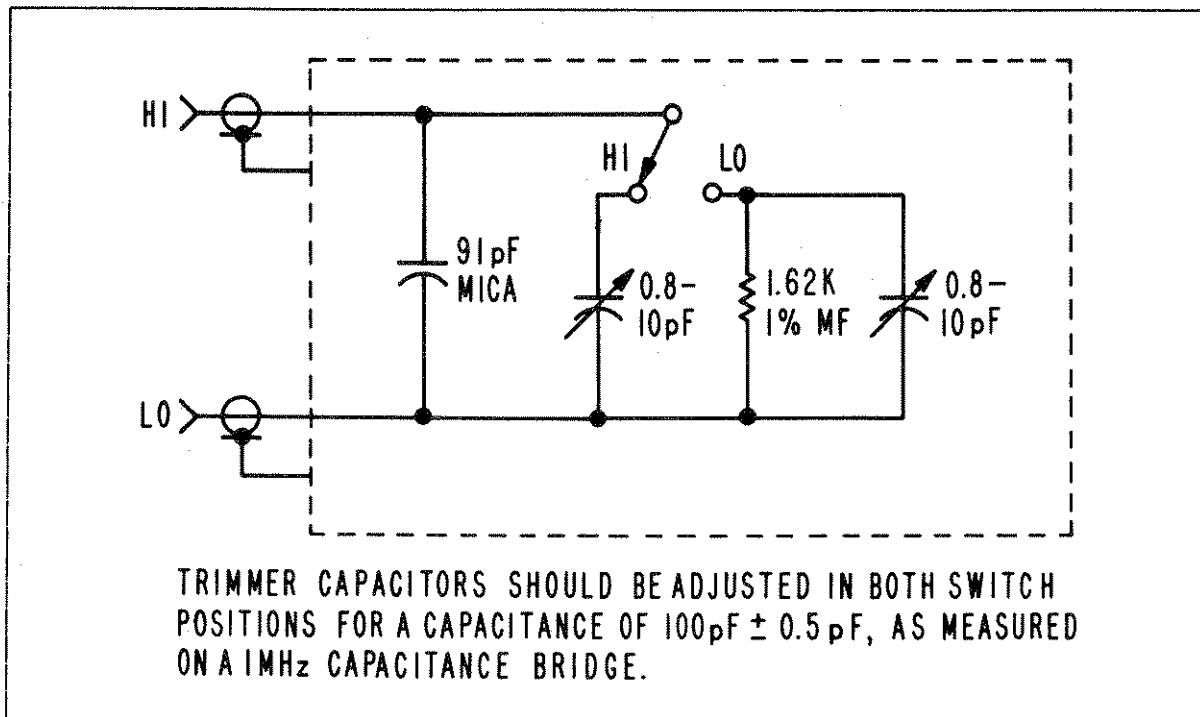

Figure 4-3. High-Q/Low-Q Standard
A. High-Q/Low-Q Test. Set the 72B to the 100 pF range, zero, and connect the High-Q/Low-Q standard to the instrument. (The schematic diagram of a High-Q/Low-Q standard that is suitable for use at 1 MHz is shown in Figure 4-3.) Measure the capacitance in both the HI and LO Q position of the standard and compare the results. If they differ by more than 0.5%, the high-low Q adjustments need readjusting.